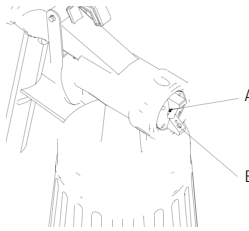

FIGURE 9.10
- Unscrew the union nut, remove the paint regulator and the spraying nozzle. Clean the paint regulator and the spraying nozzle with a brush with solvent or water (see Figure 9.10);